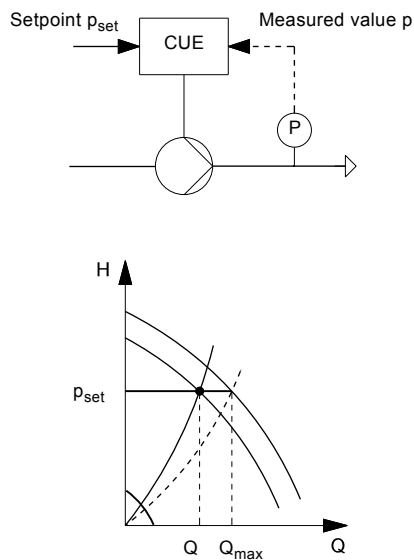

Fig. 23 Constant pressure control
The PID controller compares the required setpoint ( $p_{set}$ ) with the actual value ( $p$ ) measured by the transmitter (P). See fig. 23.